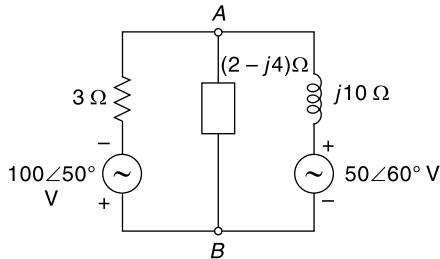

Fig. 6.2 Circuit of Ex. 6.2
6.2 Using the superposition theorem find the current flowing in the branch AB of the circuit shown in Fig. 6.2.
Considering the $100 \angle 50^\circ$ voltage source acting alone and removing the other, the current through branch AB as shown in Fig. 6.2(a) is given by